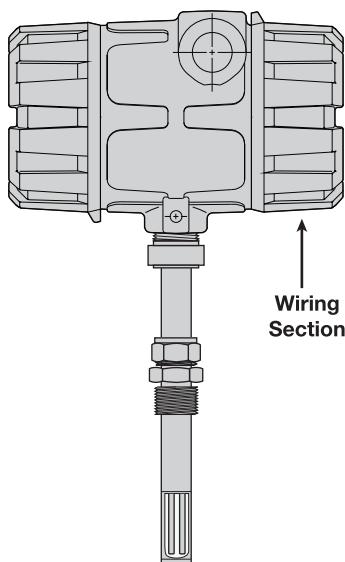

Figure 2
2. Unscrew and remove housing cover of wiring section. Refer to Figure 2.